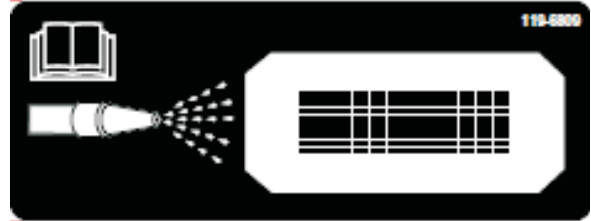
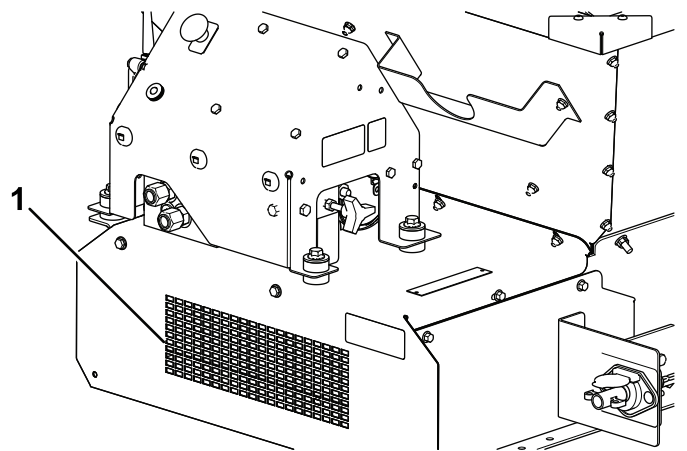

Figure 60
Figure 61
11. Locate the clean-out decal on the front of the machine (Figure 60), using a garden hose, spray through the front guard mesh until the belly pan is completely clear of material (Figure 61).